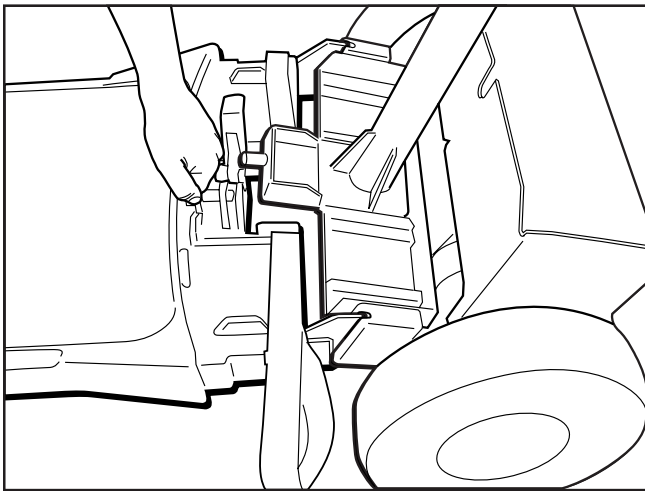
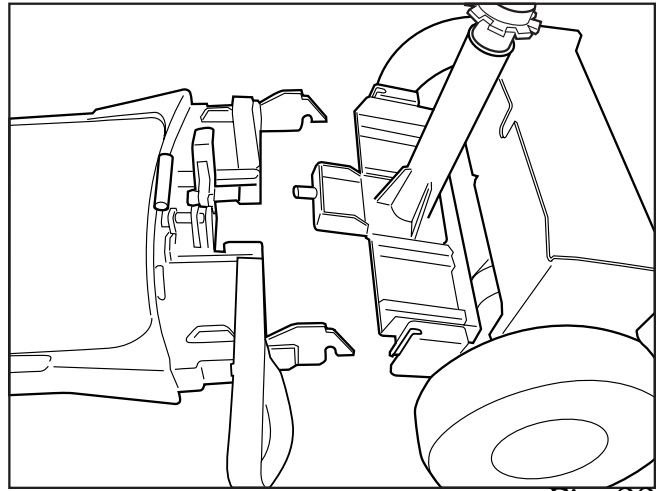

Fig. 22
Fig. 23
**10.** The latch will swing open. Now simply lift the "T" handle and the unit comes apart. (Fig. 22 and Fig. 23)